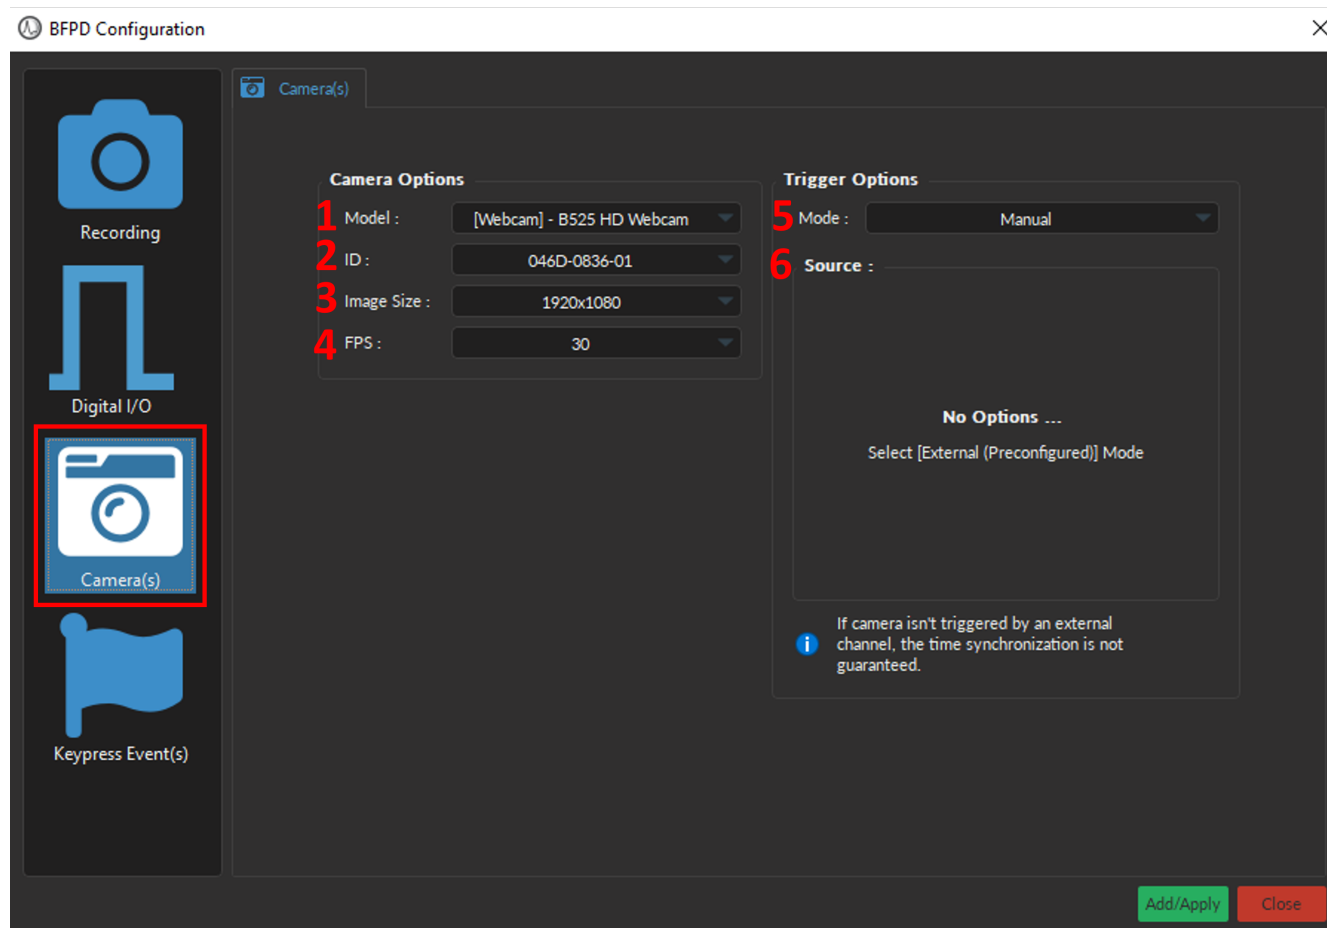

Figure 9.25: Channel(s) configuration window, Camera
1. The **Model** (Fig. 9.25, 1) allows you to select the camera of choice based on the type of camera.
2. **ID** drop-down list (Fig. 9.25, 2) is used to select a camera based on its unique ID. The ID is beneficial when multiple cameras of the same model are required for the experiment.
3. The **Image Size** (Fig. 9.25, 3) is used to set the resolution of the image. The large the number of pixels used for width x height, the better the resolution. Currently, image size can ranges between 160x120 to 1920x1080 pixels.
4. The **FPS** (Fig. 9.25, 4) is used to specify the frame rate of the camera (i.e. the number of images displayed per second). FPS can be any value between 5 to 30 for web cameras and up to 60 FPS for the *Doric Behavior Camera*.
- The **Mode** (Fig. 9.25, 5) sets the type of trigger that will control the camera. Depending on the type of camera, at most three modes are available:
- The **Source** (Fig. 9.25, 6 & Fig. 9.27) is only used for the **External (Preconfigured)** mode, and displays the **Digital I/O** channel with the preconfigured parameters that will be created at the same time as the **Camera Channel** (Fig. 9.27). For a detailed description of each Digital I/O parameter see Section 9.4.4. Briefly, key parameters include: